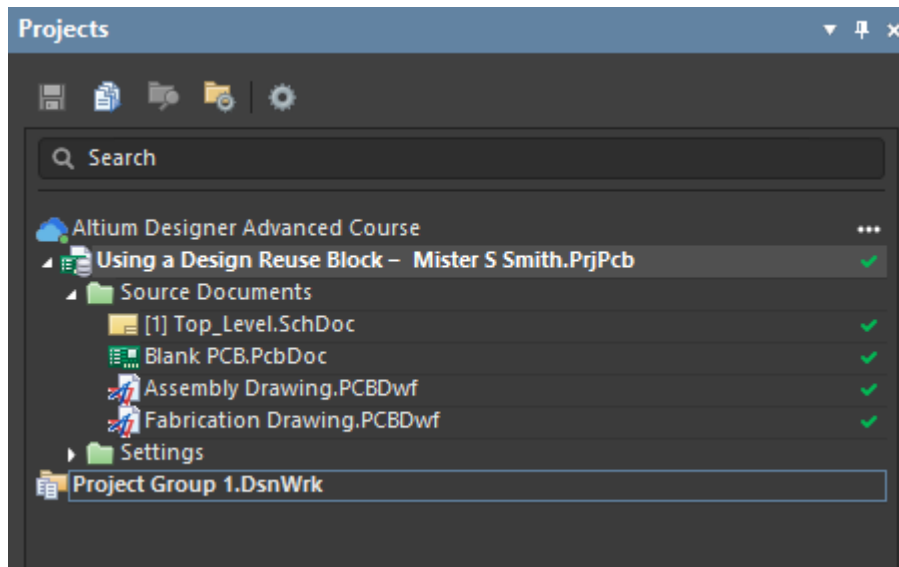

Figure 11. Projects panel with the new project
36. Return to Altium Designer. In the *Projects* panel, you can see a project called *Using a Design Reuse Block - [Your Name].PrjPcb* with a schematic document, a PCB document, and additional documents, as shown in Figure 11 below.